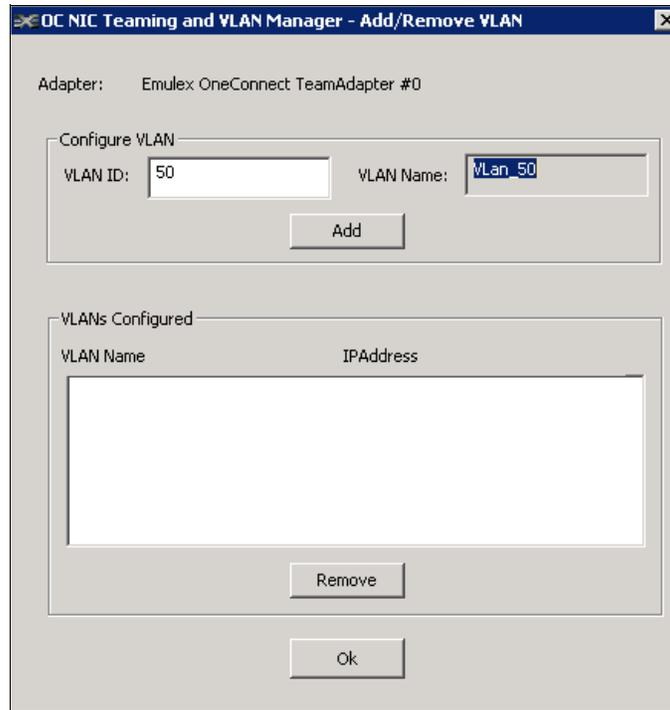

Figure 9-30 Adding the VLAN in Emulex OneCommand Manager
4. In the Add/Remove VLAN window (Figure 9-30), enter the VLAN ID and click **Add**.